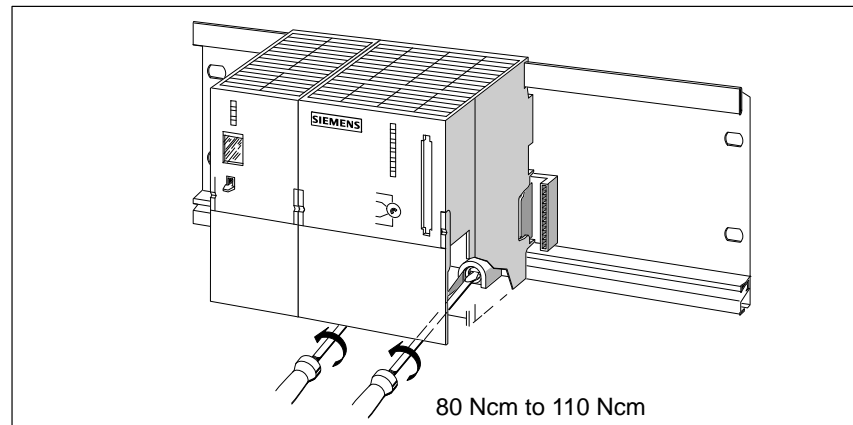

Figure 9-3 Slackening the Screws of the Module
8. Slacken the mounting screw(s) of the module (Figure 9-3).
8. Slacken the mounting screws of all modules in the module assembly. Figure 9-3 shows the positions of the mounting screws on a module.